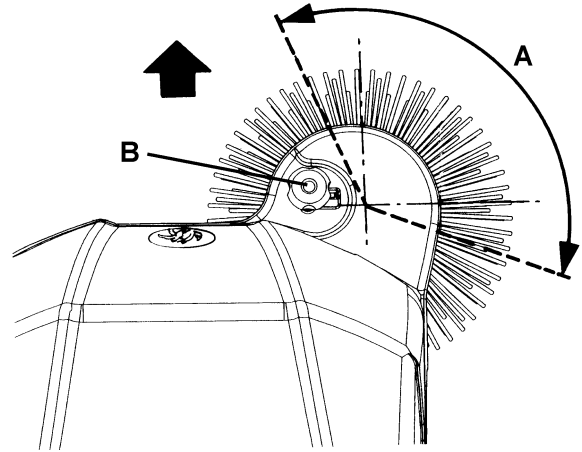

Figure 11
2. Turn the knob (B, Fig. 11) clockwise and counter-clockwise to adjust the side broom height.